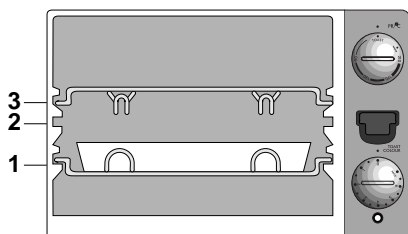

fig. 5
This function is mainly used to grill meat and vegetables. Insert the two wire racks exactly as shown in fig. 5. The dripping pan (F), placed above the lower wire rack, will serve to collect any drops of fat.